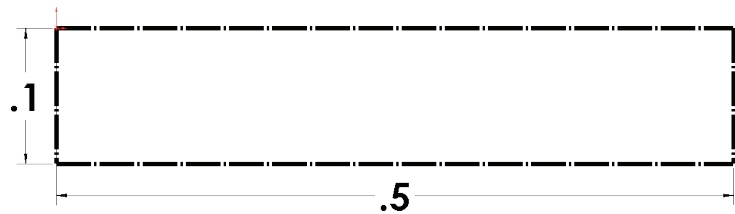

Fig. 3
Step 5. Click **Smart Dimension**  (S) on the Sketch toolbar.
Step 6. Set the dimensions as shown in **Fig. 3**.
Step 7. Click **Zoom to Fit**  (F) on the View toolbar.